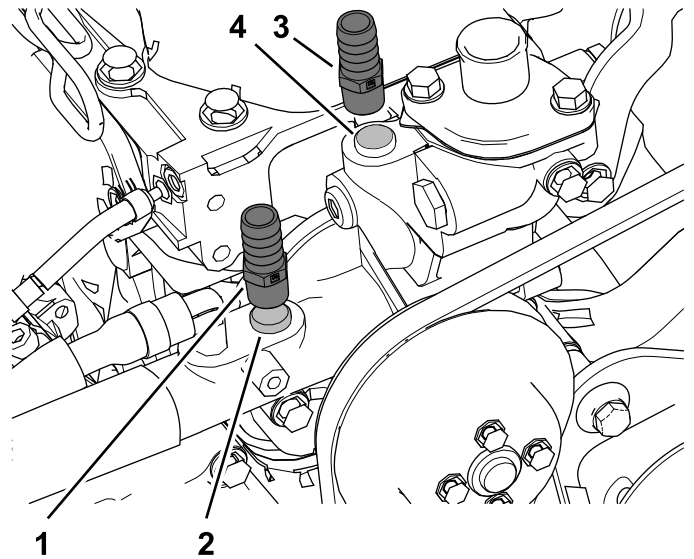

Figure 34
2. Remove the heater supply and return hose plugs from the engine and install the fittings (3/8 NPT x 0.625 barb) as shown in Figure 34.